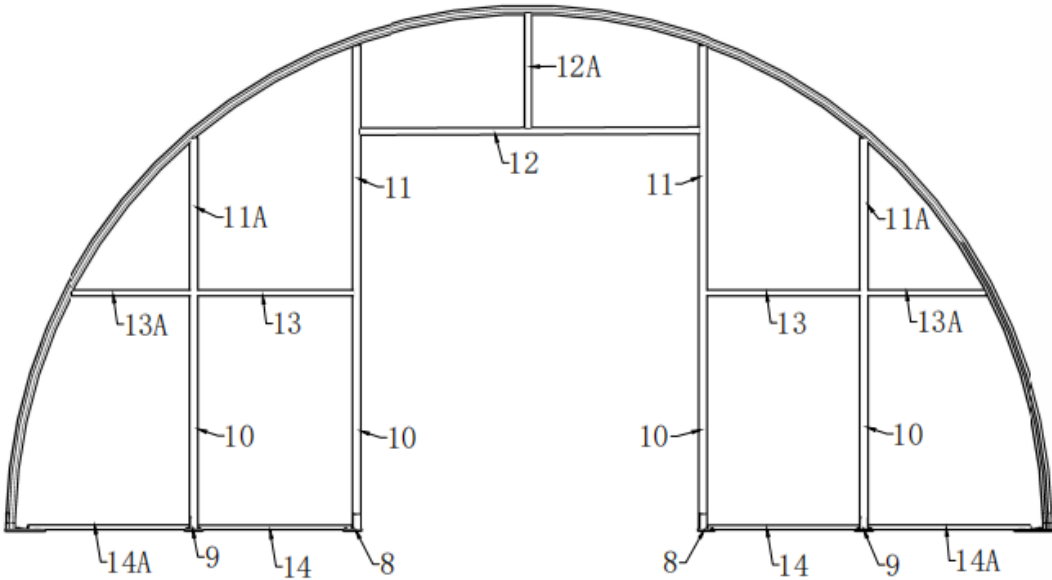

Figure 6
1. Please install the front and back door frame according to the above drawing (Figure 6, 7 & 8). Find corresponding bolts and tubes to connect each other.